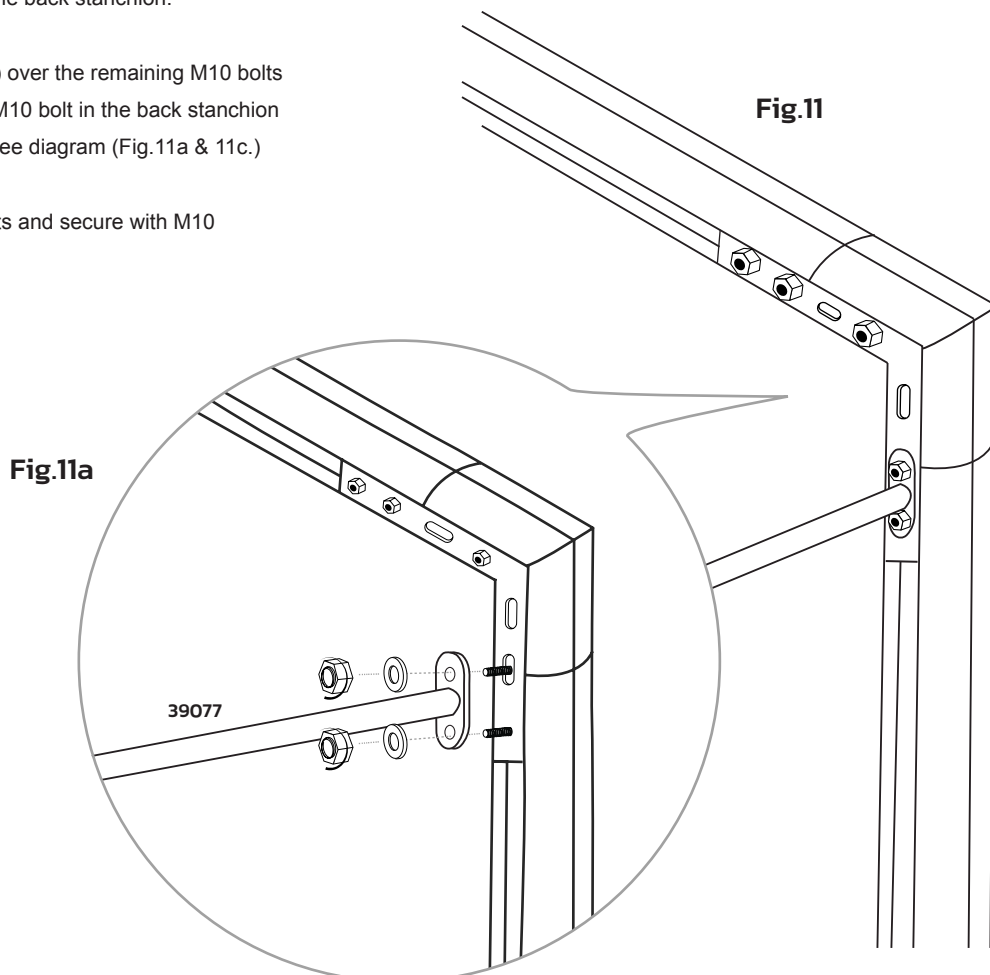
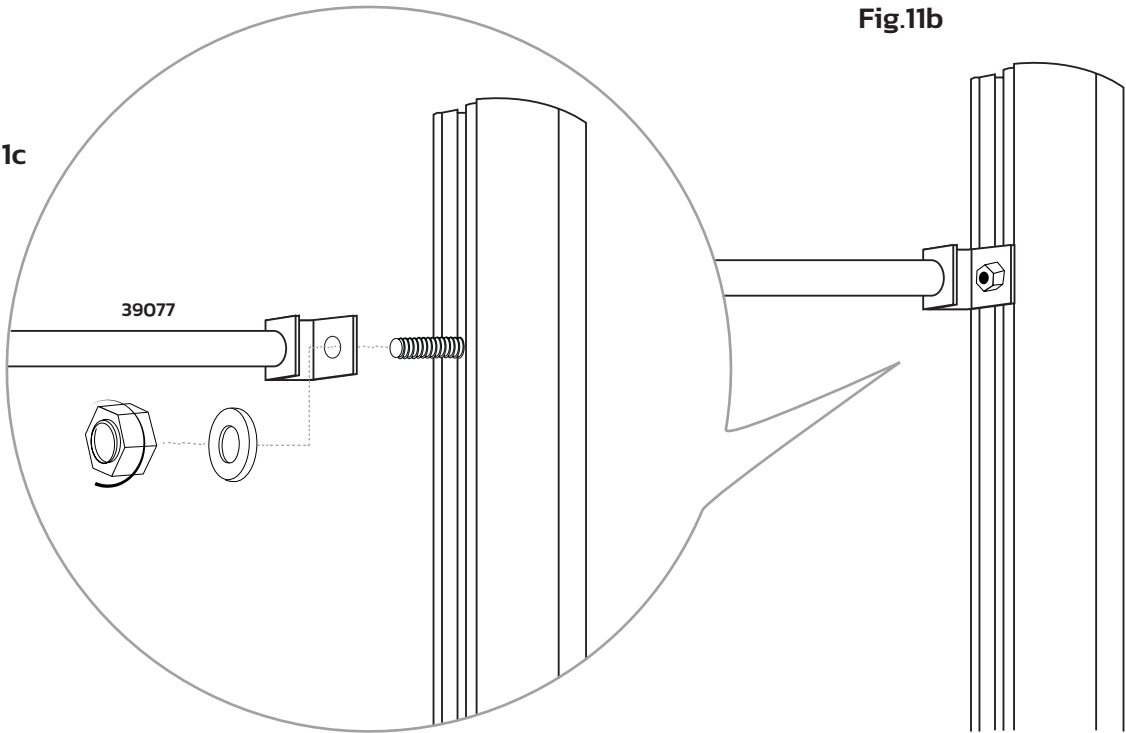

Fig.11c
Fig.11b
Step 11 – Fitting and securing stanchion support (fig.11, fig.11b, fig.11c & fig.11d)